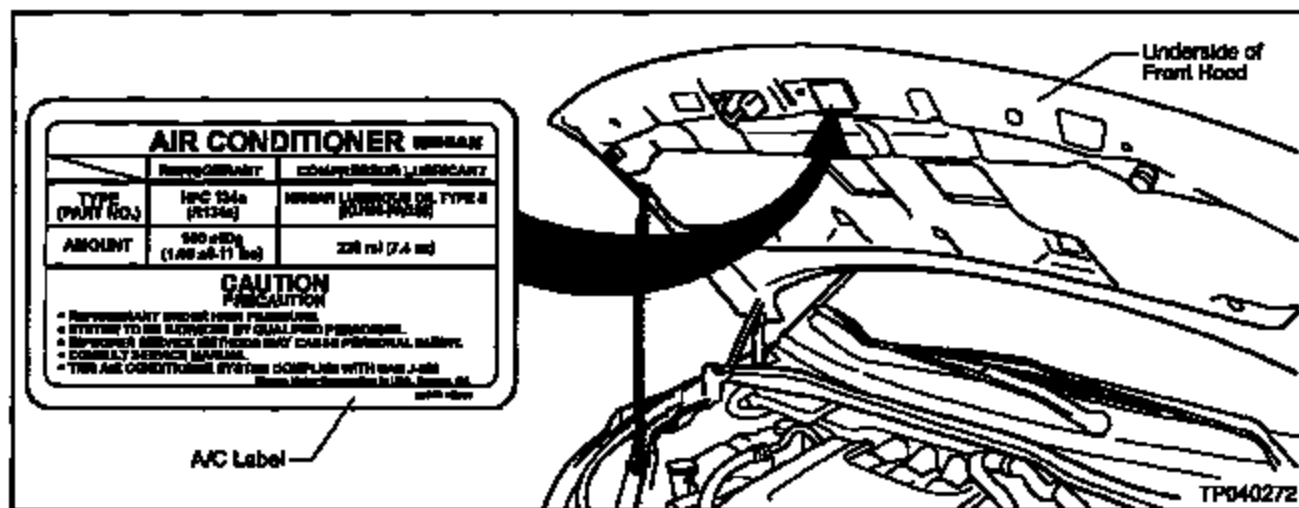

Figure H1
1. Install a new A/C Specification Label as follows (see Figure H1).